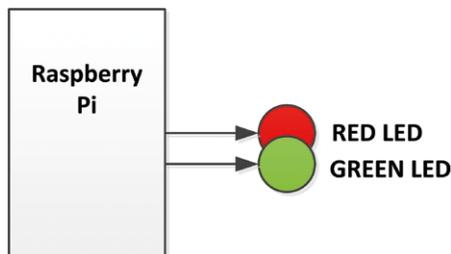

Figure 2.21 Block diagram of the project
**Block diagram:** The block diagram of the project is shown in Figure 2.21.